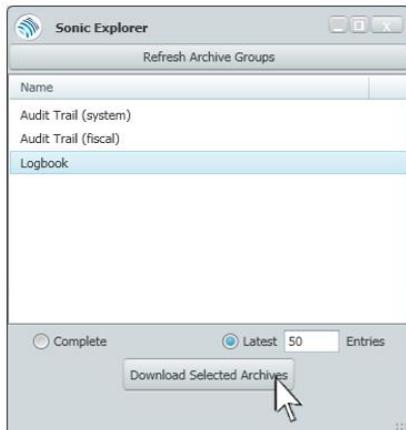

Figure 17-2 Archives window
- ✓ A new window will open as seen below in Figure 17-2.
- Press **Download Selected Archives**. (Figure 17-2)